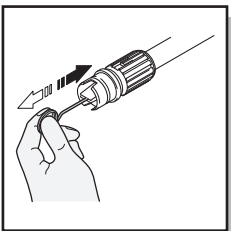

Fig.8
- Keep the nozzle cleaning wire, Which is taped to this manual for use in unclogging the lance nozzle (Fig.8). If you lose the cleaning wire an unbent paper clip works fine.